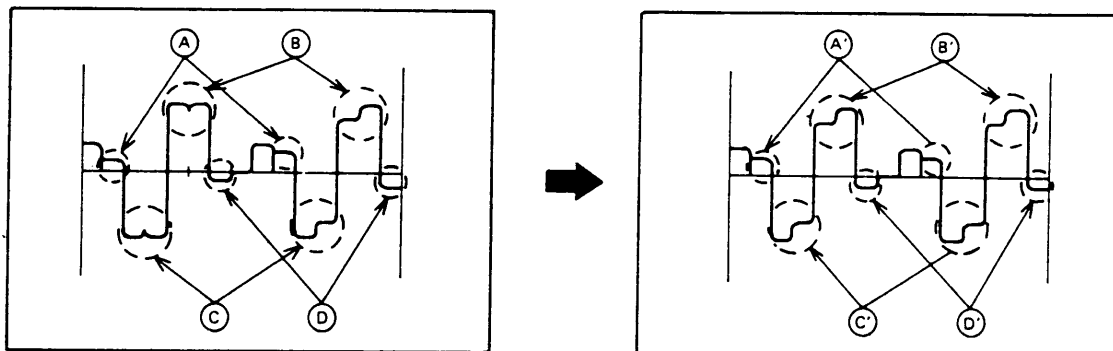

Fig. 4
3. Adjust T403 so that waveform may be the same as shown in Fig. 4.